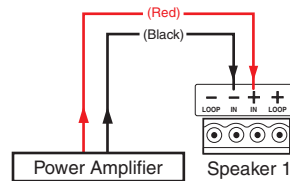

Figure 13. Wiring a Single Speaker
- **Wiring a Single Speaker:** Connect the wires to the captive screw connector of the speaker as shown in figure 13. Be sure to tighten the screws.